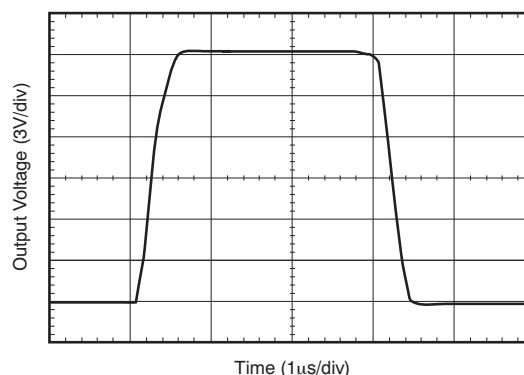

Figure 12.
(1) The BUF08832  $V_{COM}$  DAC limits can be programmed. These default limits apply if the device is not programmed. See the Programmable  $V_{COM}$  Limit Section.
(2) See Figure 12, Large-Signal Step Response,  $V_{COM}$ .